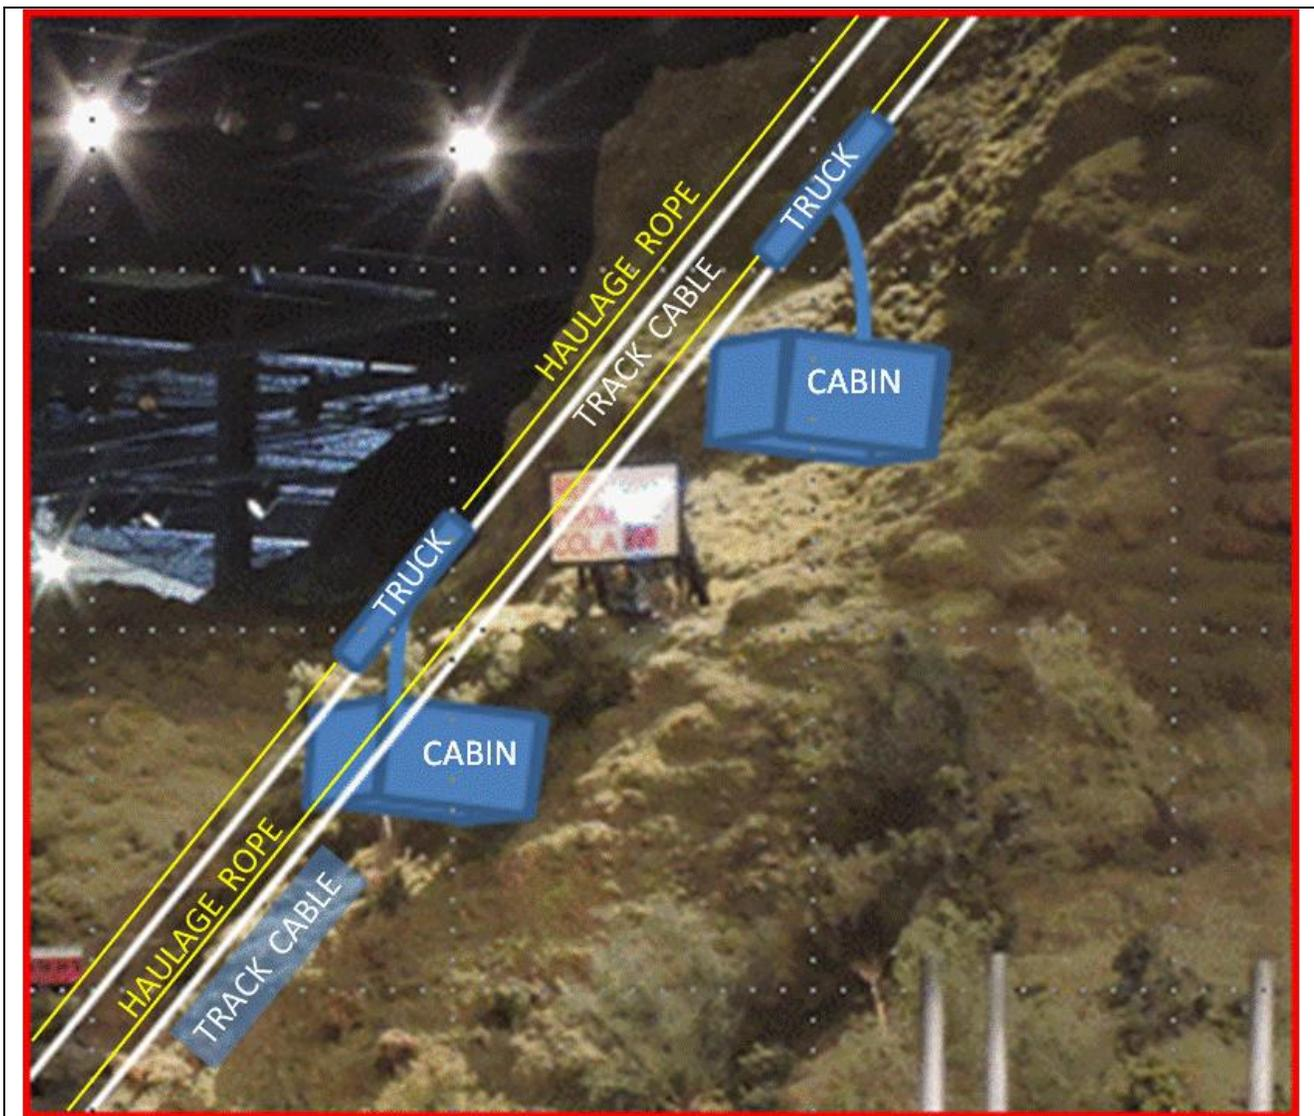

Figure 1. Aerial Tramway Terminology
This month's article continues the description of the EnterTRAINment Junction (EJ) layout's aerial tramway, currently under development. This time, we'll explore the design concept and how it's being implemented mechanically and electrically on the tram cars. Figure 1 is a repeat of same Figure used last month to show what aerial tramway terminology means.